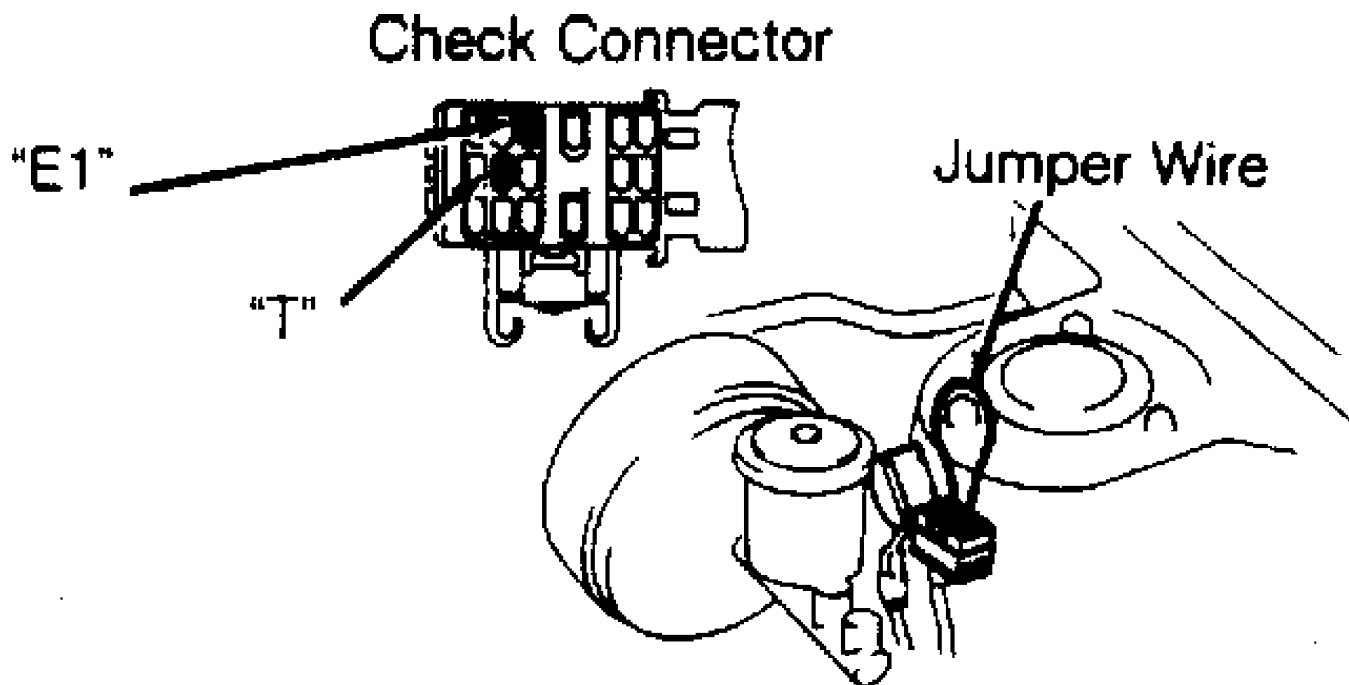

Fig. 61: 2WD 3S-FE Checking ISC Valve
1) Warm engine to normal operating temperature. Ensure idle speed is correct. Apply parking brake and place transaxle in Neutral. Install jumper wire between terminals "T" and "E1" of check connector located near left shock tower. See Fig. 61.